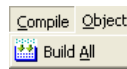

Figure 2-10 Menu bar—Compile
- **Compile:** It is used to compile the setting on the screen and a text panel, as shown in Figure 2-10. Please refer to section 3.4 for more information.